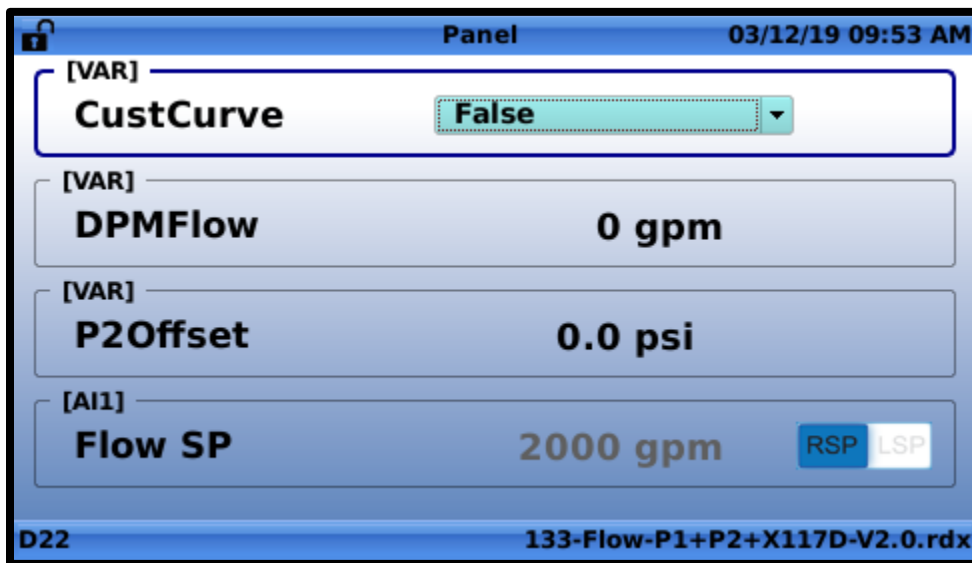

Figure 8.3
- Starting from the home screen, press short down and wait for the interactive variable screen to be displayed as shown in **FIGURE 8.3**.